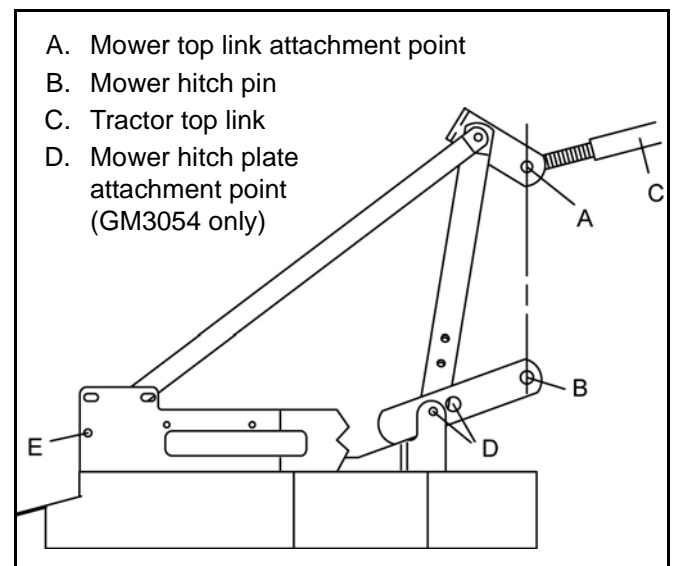

Figure 4. Top Link Adjustment
When the cutting height is set, adjust tractor top link until mower top link attachment point (A), Figure 4, is aligned vertically with mower hitch pin (B). The front tires of the mower will lift off the ground before the rear tires when the unit is raised. This will allow the mower to follow the ground contour.
3. If there is interference on GM3054 model, adjust mower hitch plate point as shown in Figure 4. On model GM3060 and GM3072, the hitch plate is not adjustable; see tractor operator's manual and adjust tractor wheels accordingly.